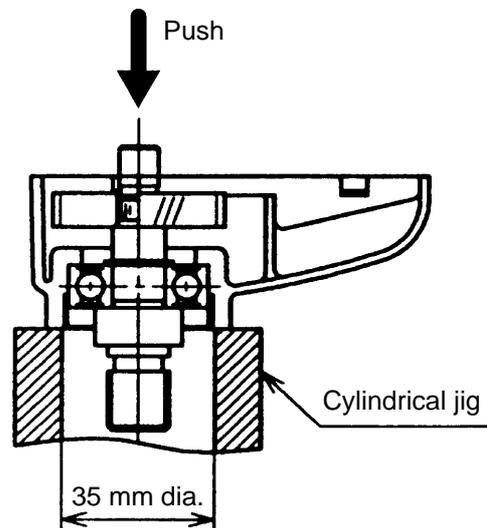

Fig. 3
- (1) Loosen the four Tapping Screws D5 x 45 [7] <7>, and remove the Gear Cover [8] <8>, together with the Spindle [4] <4>, the First Gear [9] <9>, and the related parts as a single unit.
- (2) Remove the Bearing Caps [3] <3> with the J-21 wrench.
- (3) As illustrated in Fig. 3, support the tip of the Gear Cover [8] <8> with a cylindrical jig of inside diameter 35 mm or more, and push the rear portion of the Spindle [4] <4>. At this time, the First Gear [9] <9> will come off of the Spindle.
- (4) Remove the D12 Retaining Ring [6] <6> from the Spindle [4] <4>, and the Ball Bearing [5] <5> can be removed from the Spindle [4] <4> with the J-30 bearing puller ass'y (special repair tool, Code No. 970804).